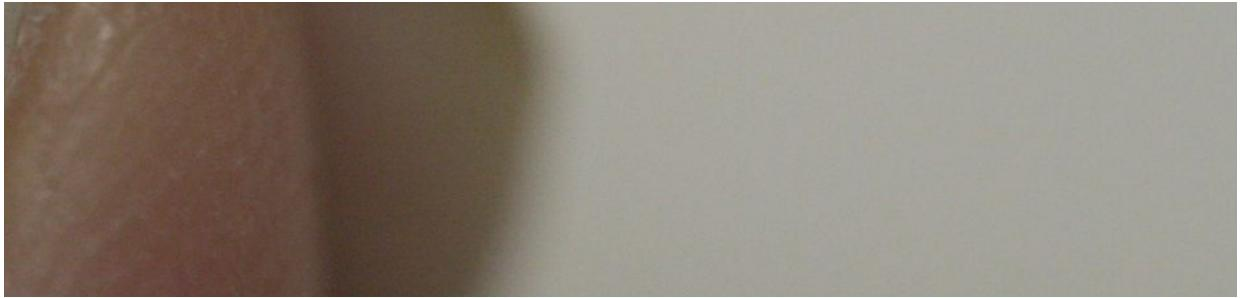

Figure 3-4. Stripped jumper wire
1. Take your two longest jumper wires. If your jumper wires have a thicker, knobby end, clip it off with your wire cutters. Then strip the rubber insulation off one end of each wire, as shown in Figure 3-4. Make sure not to cut through the metal wires. You simply want to cut away the rubber to expose the wire underneath.